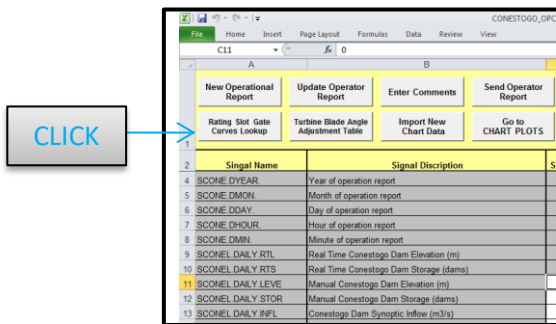
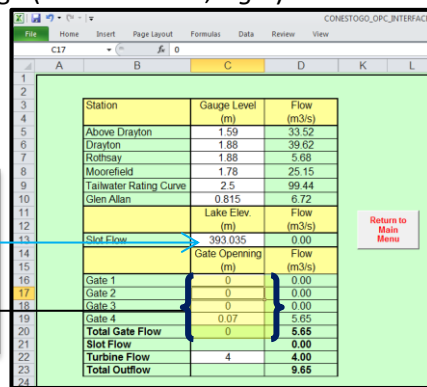

Fig 5
Fig 6
- To back up the current discharge flow, locate and select “Rating Slot Gate Curves Lookup” icon (Fig 5). Then update lake level, gate settings and turbine discharge (check daily log) information on spreadsheet to accurately obtain your total current discharge (Total Outflow, Fig 6).